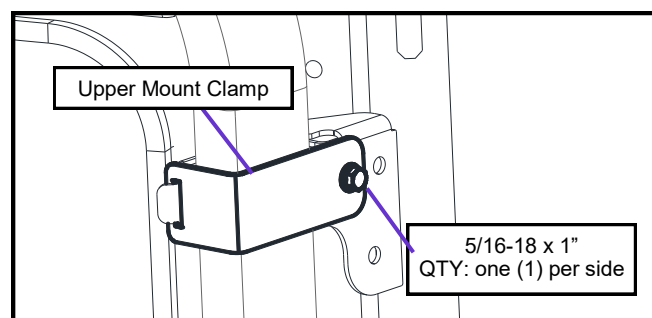

Fig. 3.11: Upper ROPS Clamps
- 3.11 Check the fit of the cab, adjust as needed and secure the Upper Mount Clamp from the hardware box onto each upper ROPS mount with a 5/16" bolt (see fig. 3.11).